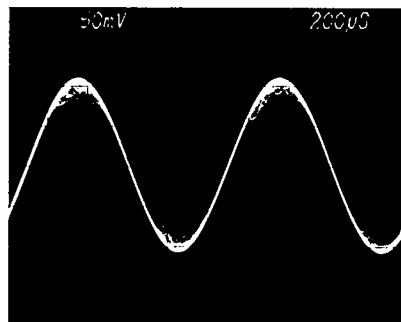

Figure 12-2. Tuner output going to distortion analyzer.
8. Reduce the FM signal generator RF output level until the noise plus distortion increases to 3% THD or  $-30\text{dB}$  down ( $0\text{dB} = \text{Set Level} = 100\% \text{ THD}$ ). Then on Section 3 PCB, adjust L204, L206, L207 and R224 MIXER BIAS ADJUST for maximum signal and minimum noise. See figures 12-2 & 12-3.